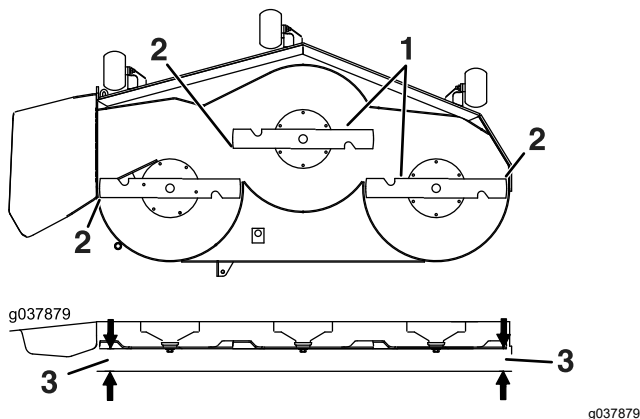

Figure 83
6. Measure between the blade tip and the flat surface (Figure 83). If both measurements are not within 5 mm (3/16 inch), adjust the leveling; continue with this procedure.
14. Carefully rotate the blades side to side (Figure 83).